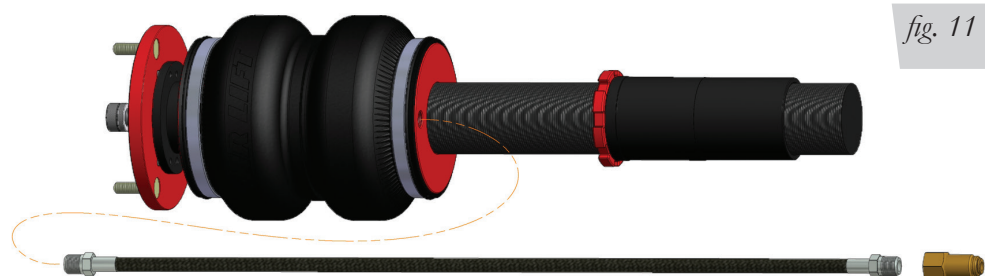

fig. 11
1. Begin by installing the leader line into the air spring (fig. 11). Wrap the threads of the leader hose with Teflon tape or thread sealant. Tighten the appropriate fitting to the airline 1 3/4 turns beyond hand tight. Tighten the leader line into the air spring 1 3/4 turns beyond hand tight.